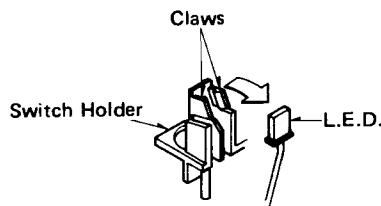

Fig. 7
2. To remove the switch holder, turn over the operation circuit P.C.B. and release the L.E.D. from the 2 switch holder's claw. (Fig. 7)